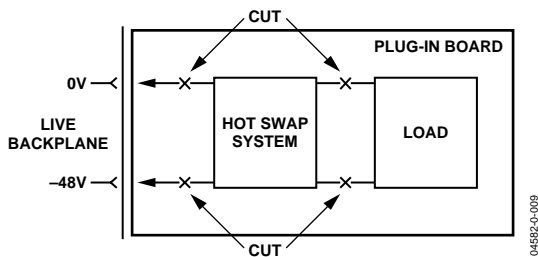

Figure 9. Removing Existing Hot Swap Circuitry from the System
1. Locate the existing hot swap device and its accompanying components and disconnect this portion of the system by cutting the relevant tracks on the board, or alternatively, desoldering and removing the relevant components, as shown in Figure 9.